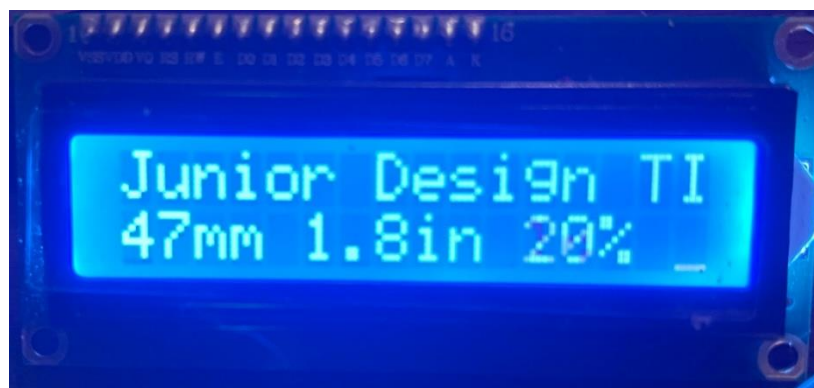

Figure 5: An example output from the breadboard range finder project.
3.13: *This is the last step in the breadboard junior design ranger finder assignment. Starting with step 3.5(the blinking LED project), step 3.7(turning on the dimmable LED), step 3.9(varying the duty cycle), step 3.10 reading the ADC (analog to digital converter), and step 3.12(reading the ultrasonic sensor), combining all the projects together into one project that implements the following for your junior design project. Figure 5 gives an example output from the range finder breadboard implementation.